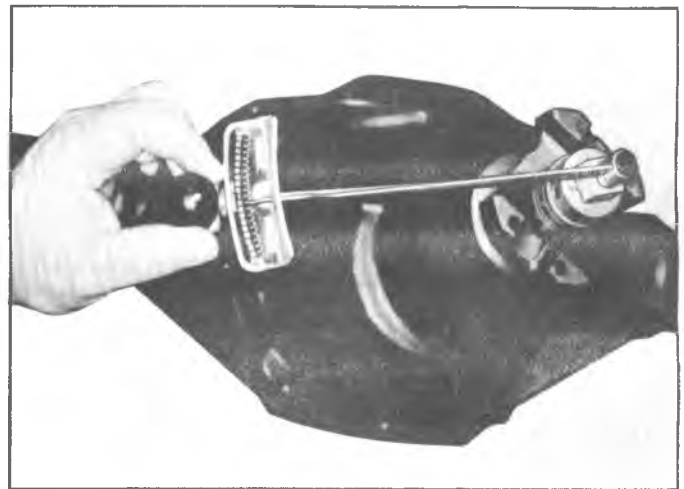

Fig. 24B—Measuring Rotating Torque
7. While observing the preceding caution, carefully set preload drag at 20-25 inch pounds on new bearings, or 10-15 inch pounds on reused bearings. Use an inch-pound torque wrench such as J-5853 as shown in figure 24B, to measure the rotating torque.